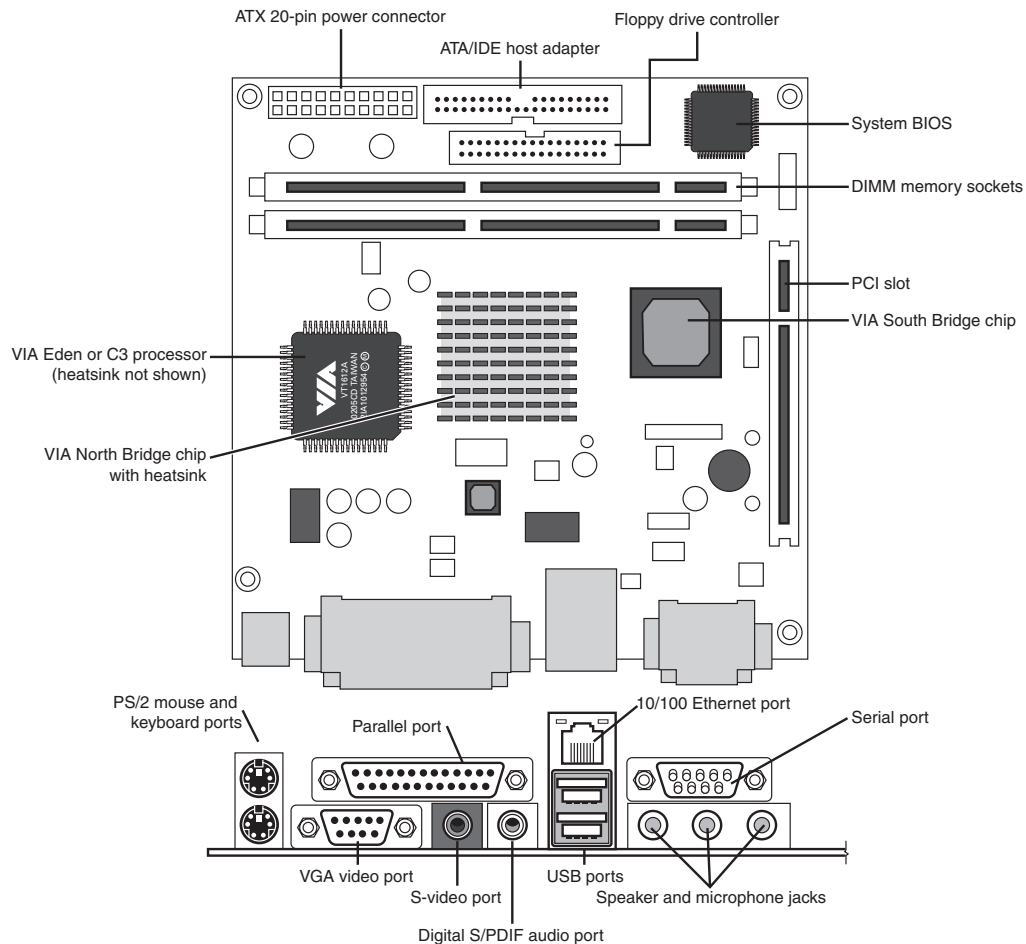

Figure 4.17 Top and rear views of the VIA EPIA-V motherboard, a typical mini-ITX motherboard. *Photo courtesy VIA Technologies, Inc.*
To take advantage of the smaller mini-ITX format, several chassis makers are producing very small chassis to fit these boards. Most are the shape of a small cube, with one floppy and one optical drive bay visible from the front. The layout of a typical mini-ITX motherboard, the VIA EPIA-V, is shown in Figure 4.17.
As Figure 4.17 makes clear, mini-ITX motherboards can offer a full range of input-output ports. However, several differences exist between the mini-ITX motherboards and other ATX designs:
- EPIA V (refer to Figure 4.17)